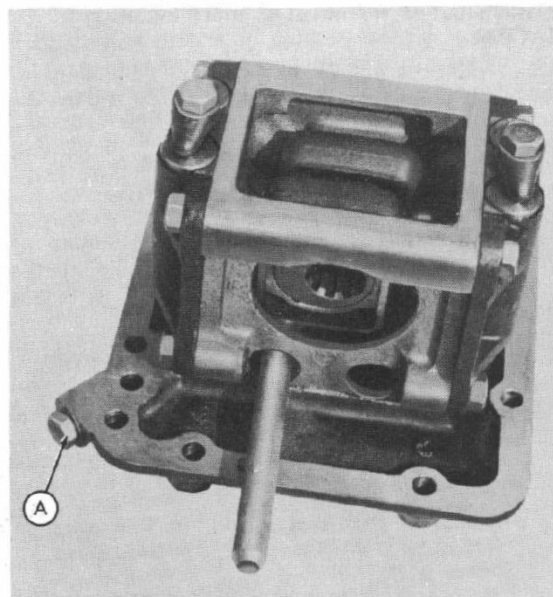

Fig. 5
- b. Drive the bushing out of the pump base as shown in Figure 5.